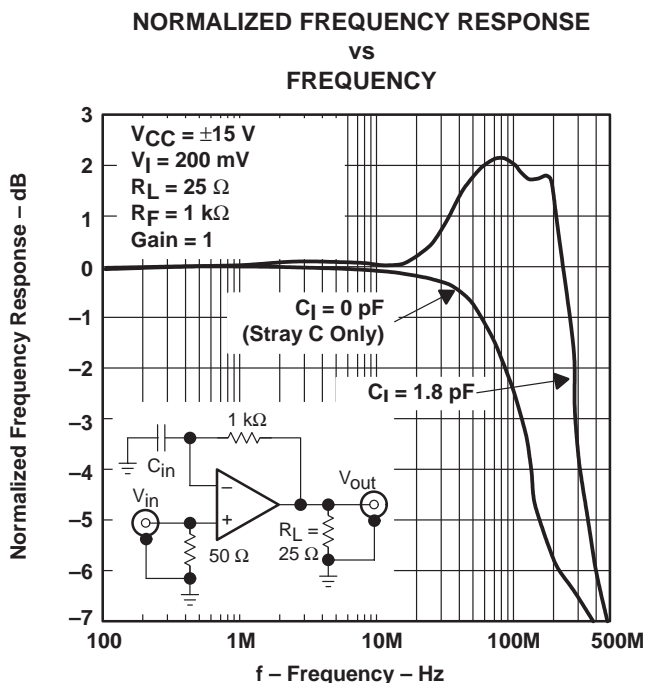

Figure 45. Driver Normalized Frequency Response vs. Frequency
- Input stray capacitance – To minimize potential problems with amplifier oscillation, the capacitance at the inverting input of the amplifiers must be kept to a minimum. To do this, PCB trace runs to the inverting input must be as short as possible, the ground plane must be removed under any etch runs connected to the inverting input, and external components should be placed as close as possible to the inverting input. This is especially true in the noninverting configuration. An example of this can be seen in Figure 45, which shows what happens when 1.8 pF is added to the inverting input terminal in the noninverting configuration. The bandwidth increases dramatically at the expense of peaking. This is because some of the error current is flowing through the stray capacitor instead of the inverting node of the amplifier. Although, in the inverting mode, stray capacitance at the inverting input has little effect. This is because the inverting node is at a *virtual ground* and the voltage does not fluctuate nearly as much as in the noninverting configuration.